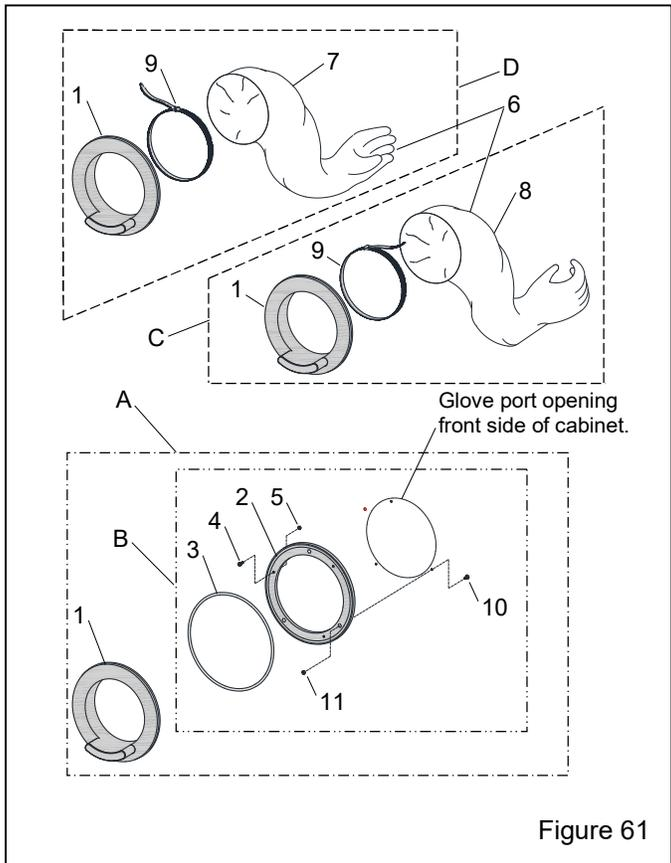

Figure 61
10.4 Gloves and Glove Attachments – Figure 61